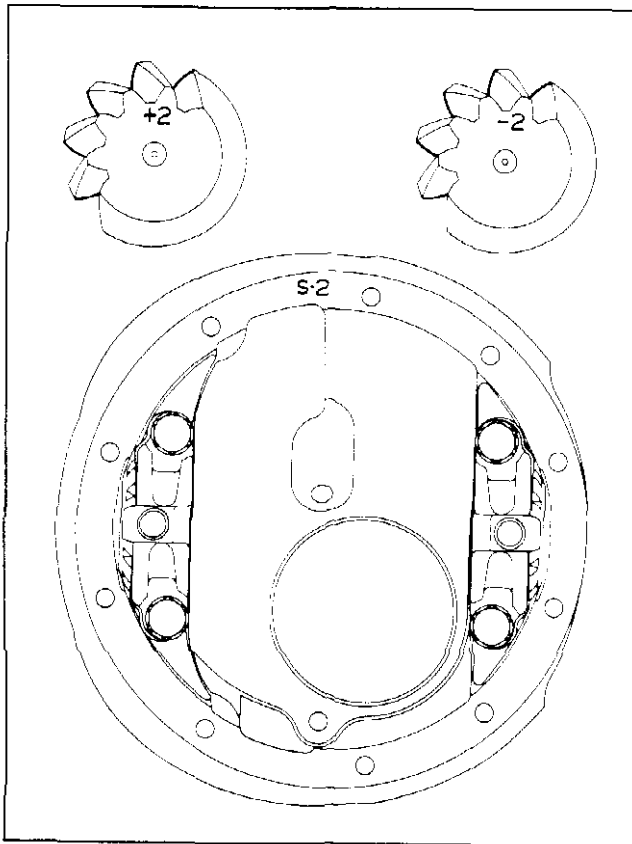

Fig. 4-45 Differential Carrier and Drive Pinion Depth Markings
4. When replacing either gear set or carrier, refer to pinion and carrier markings (Fig. 4-45) and chart (Fig. 4-46) for correct shims to be installed. Differential carriers are marked on the face of the flange (Fig. 4-45) to indicate the number of thousandths "deep" (D) or "shallow" (S) the shoulder for the rear bearing outer race happens to be. Carriers marked "D" require more shims than those marked "O" or "S". The pinion is marked on the end with a number indicating thousandths in shims from basic setting to put it in correct position with "O" carrier. Pinions which are not marked are "O" or basic. Thus, a pinion marked -2 would require a .002" added shim for an "O" carrier. **NOTE:** Letters and symbols are also stamped on pinions during inspection at the factory. Do not mistake inspector's marks for numbers which indicate pinion variations from standard size.
To use shim chart (Fig. 4-46) read marking on pinion and carrier (Fig. 4-45). In the table, read to the right from the carrier marking and down from the pinion marking; the intersection of the carrier line and the pinion column shows the correct total shim thickness to be used. As an example; with markings of S-2 and +1, the correct shim thickness is .009" while the S-2 and -2 markings shown would be .006".